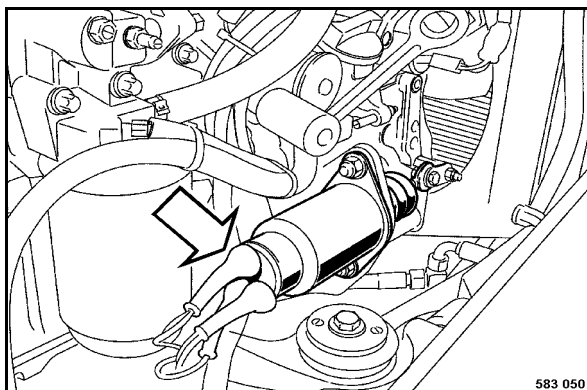

Fig. 165
- Disconnect the cable from the shut-down solenoid (Fig. 165).